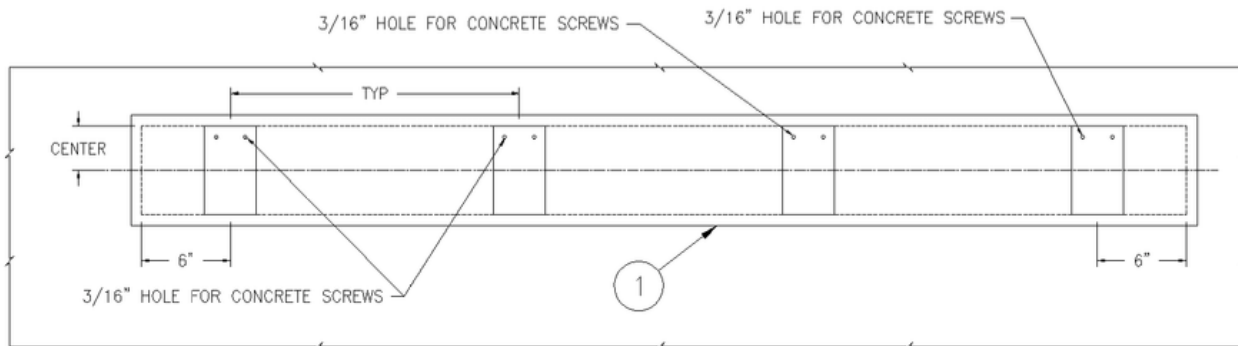

Fig. 15
Step 5B - Hold each mounting block or 2x4 or 2x6 to the wall, center it on the guideline. Using a Phillips head screwdriver, insert into top and center drilled 1/4" holes and dimple the wall. If stone or masonry brick, drill a 3/16" hole in the wall (needed for the Tapcon screws), for each hole on the wood mounting block or each hole in the 2x4 or 2x6. (Fig. 15)